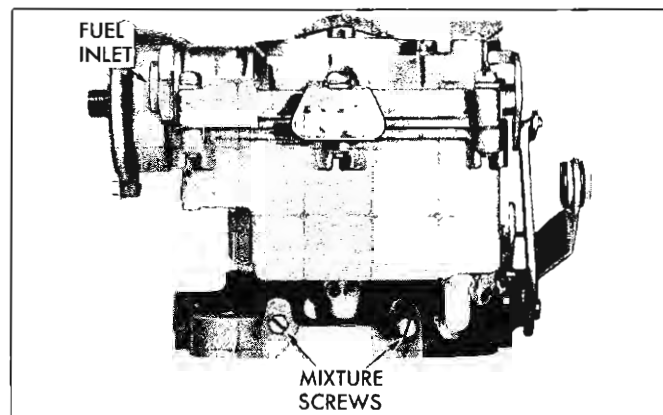

Fig. 36—Idle Mixture Adjustment
2. Adjust each idle mixture screw (fig. 36) separately to give highest steady vacuum at specified idle above. Vacuum gauge should read 17-21 inches.